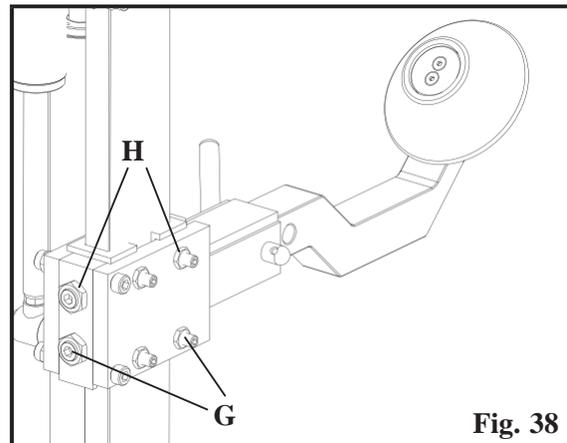

Fig. 38
- Unloose the lock nuts (H-fig.38).
- Adjust the screws (G-fig.38) properly by so as to make the arm movement smoothly.
- Secure the lock nuts (H-fig.38) after adjustment.